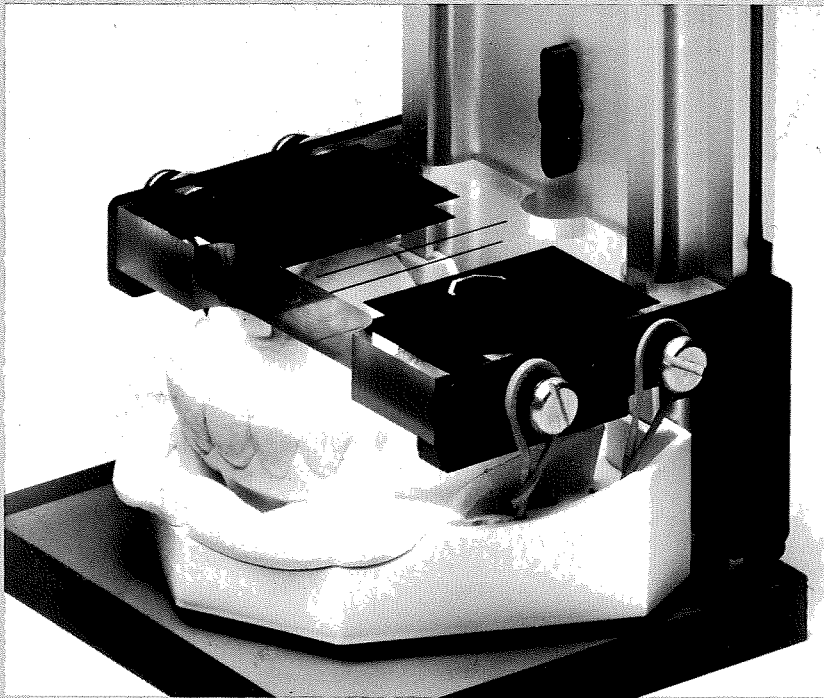

Fig. 5
**6** Pour plaster into the acrylic base tray and lower the upper member of the base unit, with attached maxillary model, as far as it will go. After allowing the plaster to set for a short time, remove the rubber bands. Remove excess plaster and smooth under running water (Fig. 5).